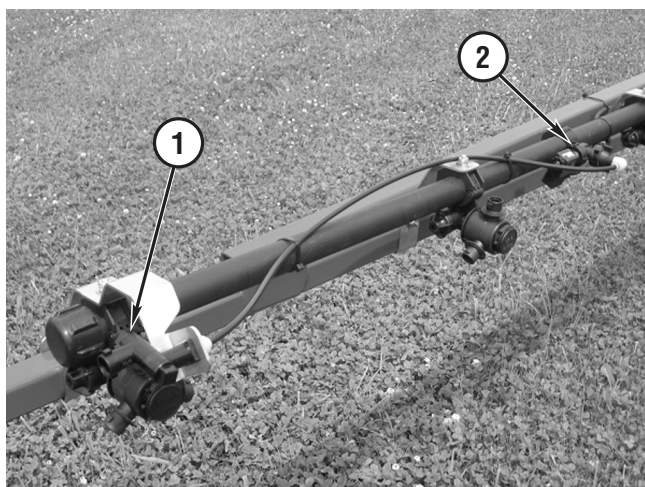

Figure 4-14
1. Remove the cap from the foam/rinse quick fill inlet (**Figure 4-14, 1**) and connect the hose from the nurse tank to the inlet.
2. Set the rinse knob (**Figure 4-14, 2**), shown in the CLOSED position, to RINSE TANK FILL.
4. When filling is complete, close the valve on the nurse tank, then set the rinse knob (**Figure 4-14, 2**) to CLOSED.